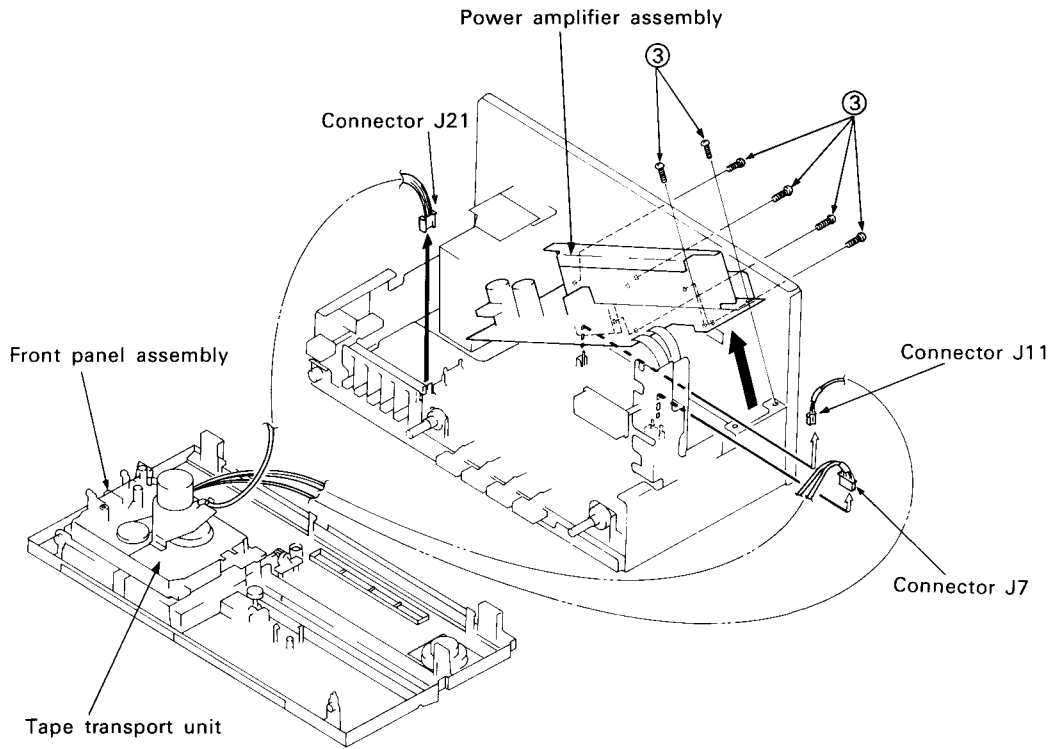

Fig. 3-2
1. Remove 5 pieces of screw ①.
3. Remove 2 pieces of screw ② and 1 piece of nut ②.
4. Push the claw at the bottom of chassis, remove the Front panel assembly, and pull out toward you. Remove the LED assembly (A) and (B) from the Front panel assembly.
5. Remove 6 pieces of screw ③, and enable the Power amplifier assembly to move upward. (See Fig. 3-2)